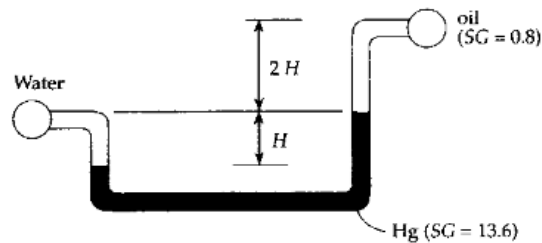

Figure 1:
13. Water flows at a steady rate of $192 \frac{\text{ft}^3}{\text{s}}$ through a concrete-lined rectangular channel 16 ft wide as depicted in Figure 1. Water enters the 0.35% sloped channel ($S_0 = 0.0035$) at location 1 and is flowing at 110% normal depth ($1.1 \times y_n$). The water exits over a 3-foot tall weir (assume sharp-crest weir) at location 2.